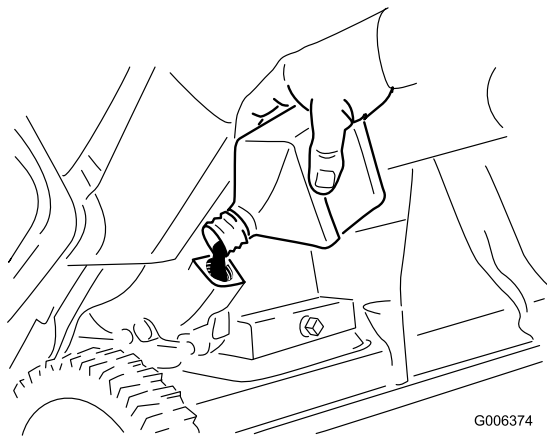

Figure 29
8. With the machine in the operating position, **carefully** pour oil into the oil-fill hole. Wait 3 minutes for the oil to settle and add enough to bring it to the point of overflow. There should be very little, if any, oil left in the bottle (Figure 29).